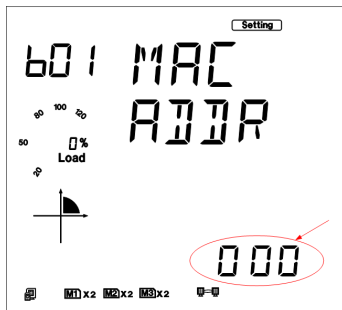

Fig 5-82
h). Set DNS Secondary Server in the sixth setting page, such as 202.106.196.115. Press the "V/A" key to go to the setting page. Users may set the parameters pointed out in Fig 5-82. The cursor starts at the first digit. After setting the DNS Secondary Server, press the "V/A" key to accept. Press the "P" key to go to the seventh setting page for the BACnet/IP port.